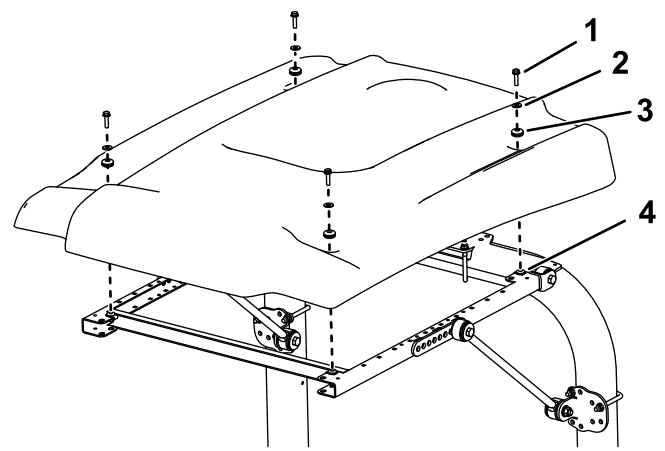

Figure 19
14. While aligning the mounting holes, position the sunshade onto the frame as shown in Figure 19.
15. Loosely mount each corner of the sunshade to the frame with a flange-head bolt (5/16 x 1-1/4 inches), a small washer, and a grommet (Figure 19).